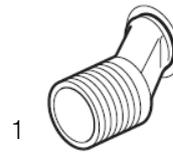

Fig.1
5. Secure the connectors (1) to the pipework using ½" BSP female connectors (not supplied) ensuring the connectors protrude out of the wall Surface as shown in Fig.1.